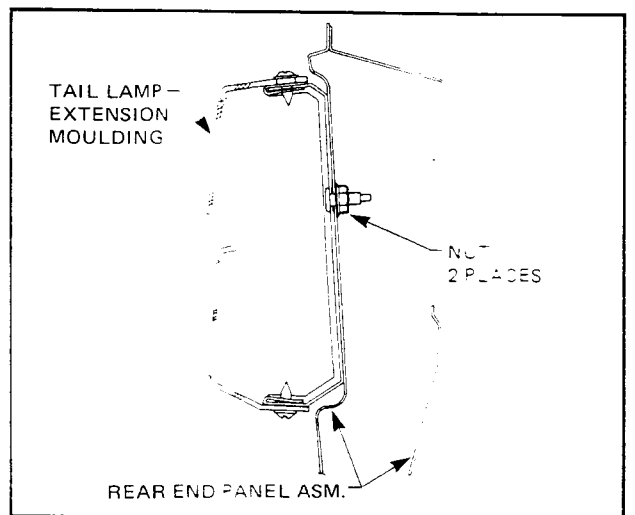

Figure 12B-6
4. Remove the five tail lamp mounting screws from inside the boot, refer Fig. 12B-7, remove tail lamp assembly.